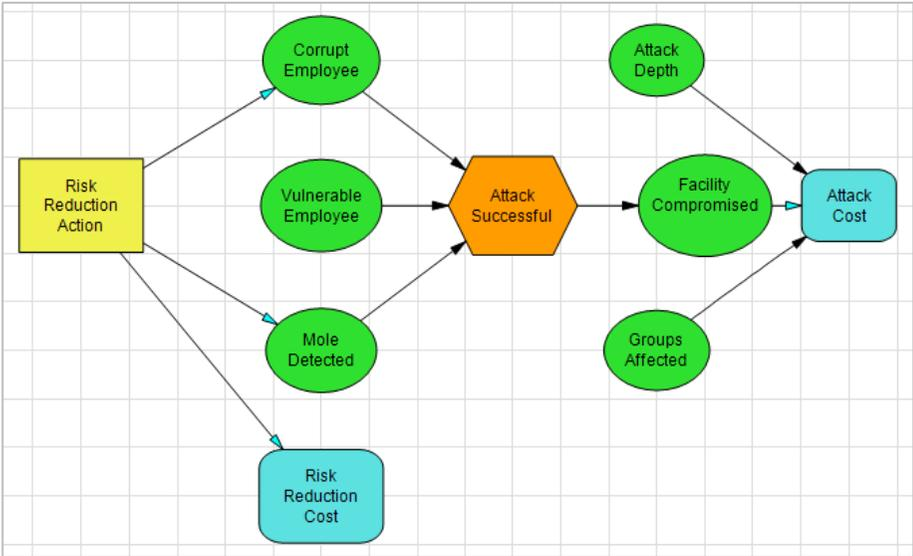

Figure 9-6. Defensive Actions Decision Model with Module and Connections
- ⇒ Draw an arc from Attack Successful to Facility Compromised. Your fault tree should look like Figure 9-6.